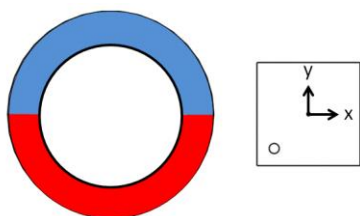

Figure 18: Package Top View with X and Y Axes
By default, when looking at the top of the package, the angle increases when the magnetic field rotates clockwise (CW) (see Figure 18 and Table 12).